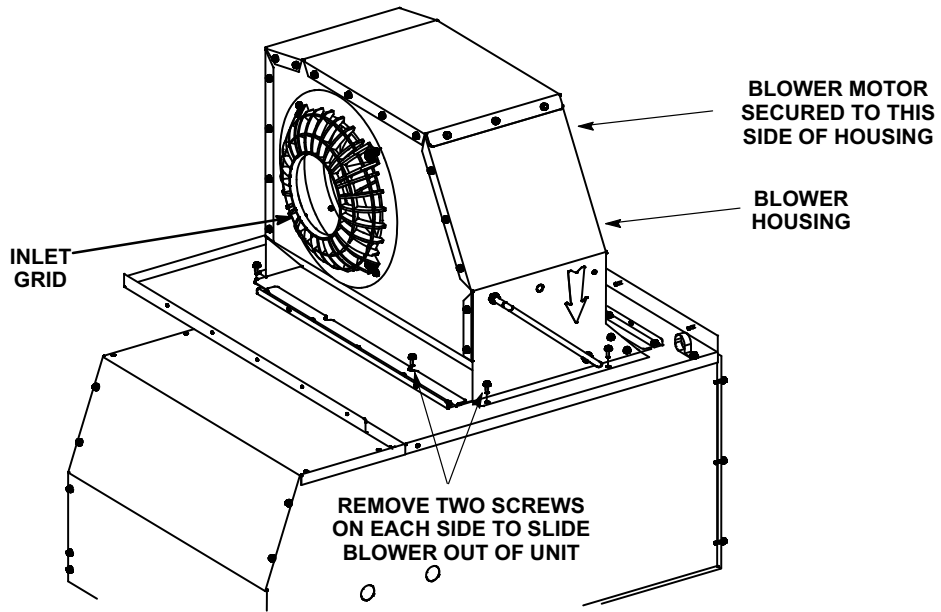
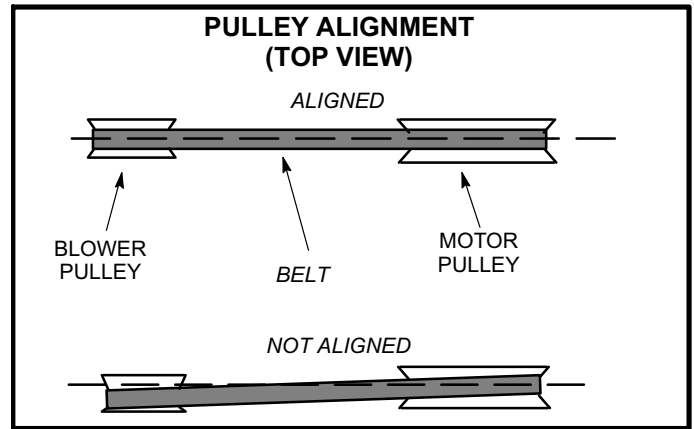

FIGURE 21
FIGURE 25
The blower assembly is secured to a sliding frame which allows the blower motor assembly to be pulled out of the unit. See figure 21, 22, or 23.
- 4- Replace retained screws in front and on either side of the blower housing. See figure 21.
- 4- The blower RPM can be adjusted at the motor pulley. Loosen Allen screw and turn adjustable pulley clockwise to increase CFM. Turn counterclockwise to decrease CFM. See figure 21, 22, or 23. Do not exceed minimum and maximum number of pulley turns as shown in table 3.
Maximum life and wear can be obtained from belts only if proper pulley alignment and belt tension are maintained. Tension new belt after a 24-48 hour period of operation. This will allow belt to stretch and seat to grooves. Make sure blower and motor pulley are aligned as shown in figure 25. See figure 21, 22 or 23 to adjust belt tension.